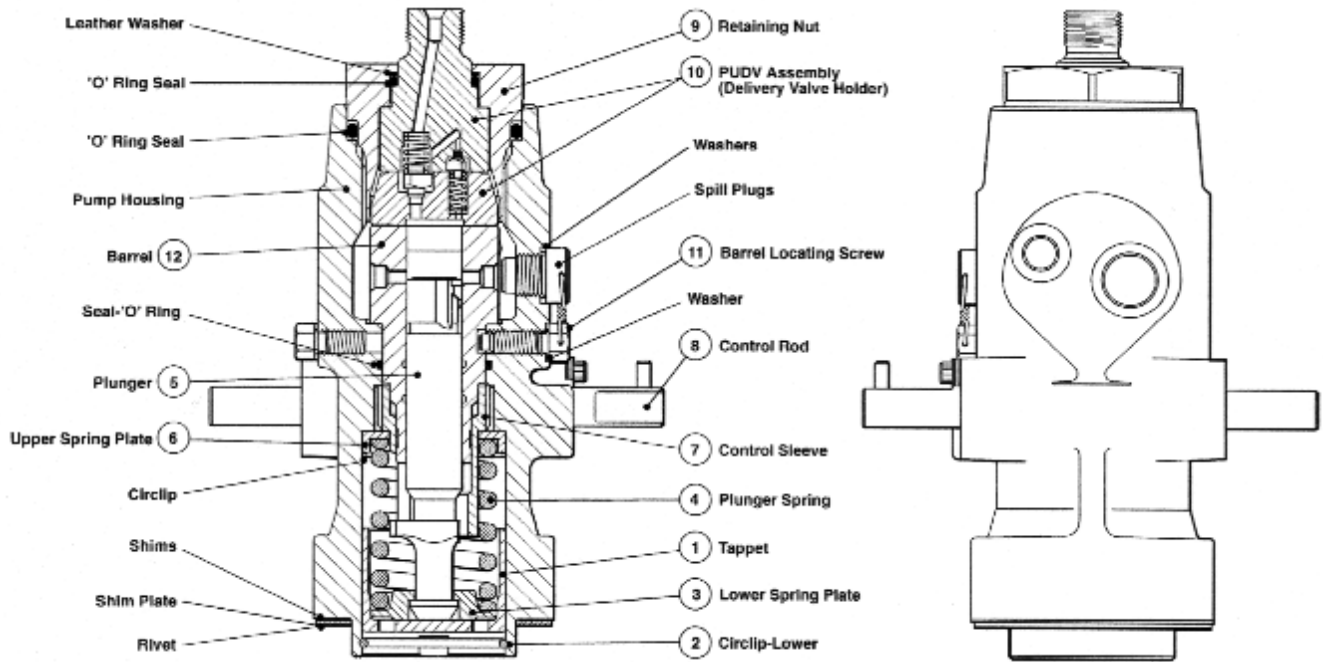

Figure 2-1. Typical Fuel Injection Pump
Woodward fuel injection pumps, incorporating a constant-stroke spring-returned plunger, are usually flange-mounted and operated from the engine camshaft, roller tappet, and pushrod onto the tappet in the fuel pump, or directly onto the roller tappet in the fuel pump. A typical single-cylinder pump is illustrated in Figure 2-1.
Invert the pump and grip the flats of the delivery valve holder (if fitted) in a plain jaw vise (pump inverted)(see Figure 2-1). Depress the tappet (1) until a service pin can be inserted through the hole provided in the spigot of the pump flange. Remove the lower circlip (2). Free the service pin and withdraw the tappet, lower spring plate (3), spring (4), plunger (5), upper spring plate (6), and the control sleeve (7).
Again referring to Figure 2-1, proceed to assemble the components in reverse sequence of operations given for disassembly. Pay particular attention to the following points: